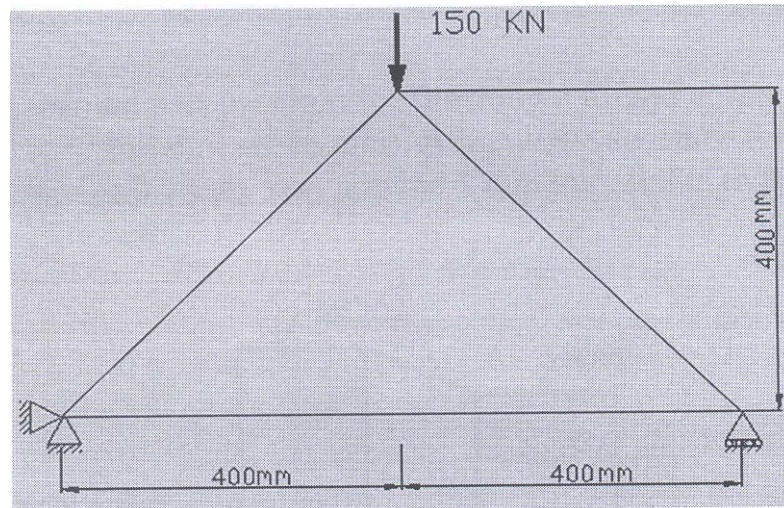

Fig. 1
- Q5)** a) For a 3 bar truss shown in Fig. 1, find nodal displacements, support reactions and elemental stresses. Cross sectional area of each element is 1000 mm^2 . Take $E = 200 \text{ GPa}$. [10]